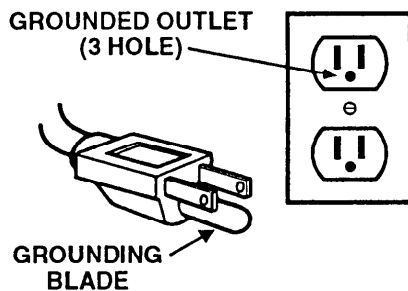

FIG. 2
2. Plug recommended battery charger into grounded 120 volt A.C. power outlet. (FIGURE 2)